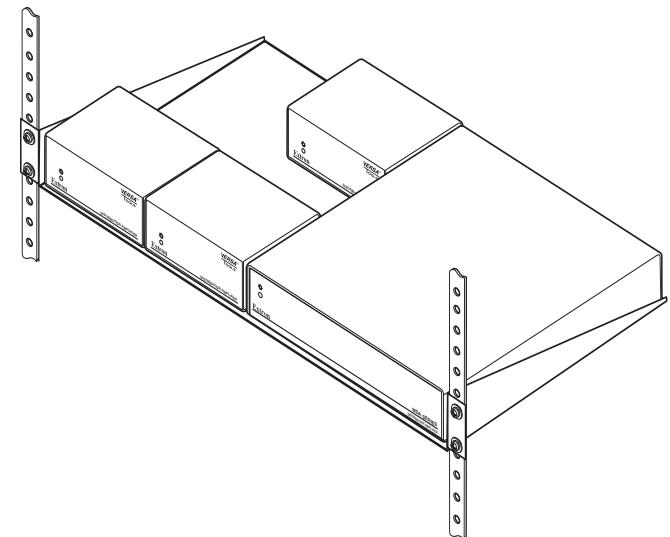

Figure 4 — Mounting the MDA on a standard shelf
(figure 4 on the next page)
5. Secure the shelf to the rack using the supplied machine screws (figure 4 on page 3).